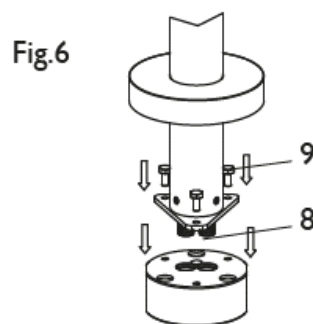

Fig. 6
Fig.6 Place the mixer over the concealed base. Be sure that both pipes (8) are correctly placed in the base; slide down the plate until it reached the floor, fit the screws (9).